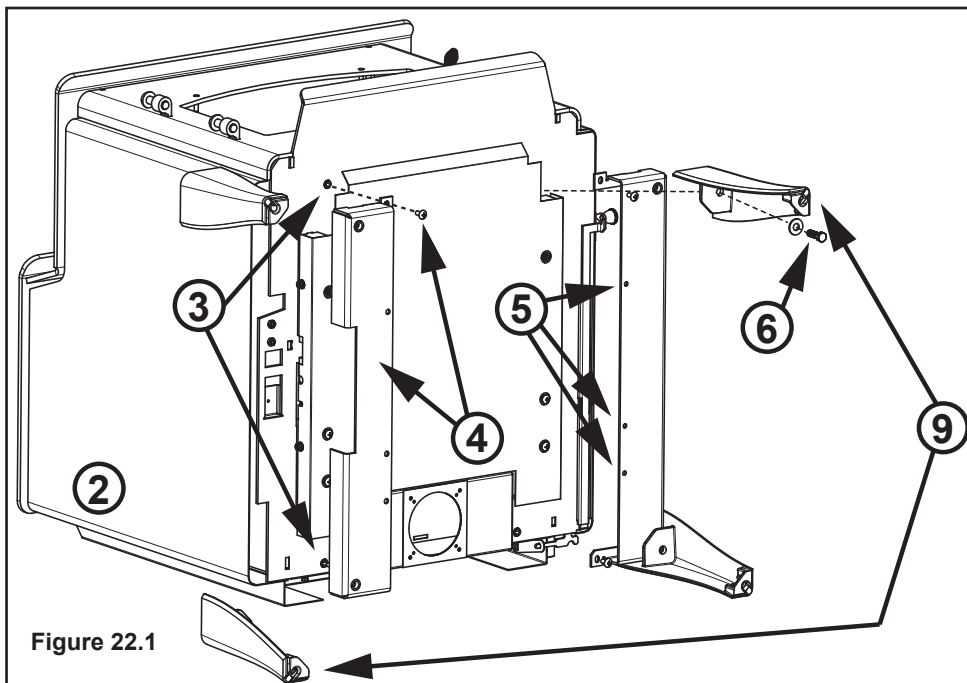

Figure 22.1
3. Remove four screws from bottom of appliance (**Figure 22.1**).
**NOTE:** There is a right and a left of the leg brackets (**Figure 22.1**).
5. Install six screws to the bottom of the leg brackets (**Figure 22.1**).
**Note:** Legs with leveling bolts need to be on opposite sides of the appliance - one in the front and one in the back (**Figure 22.1**)